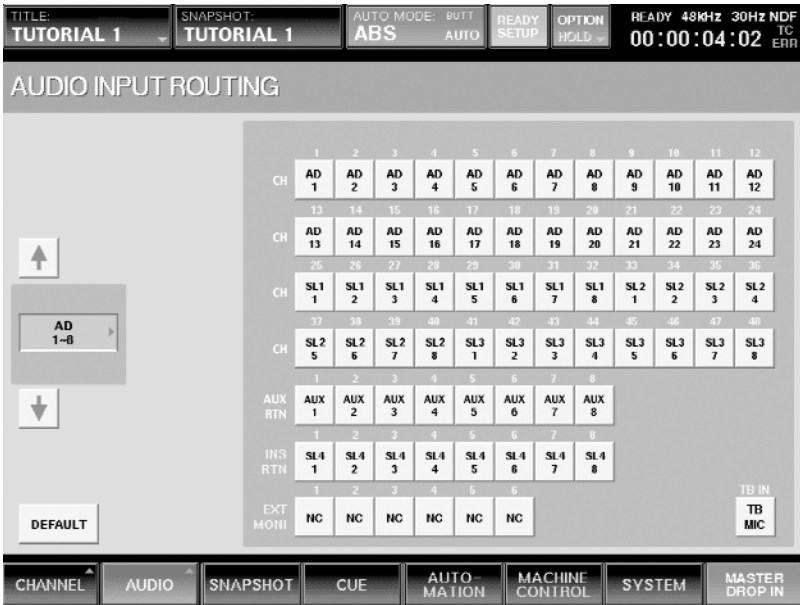

Figure 1
- 7** Go to the Input Routing window and press the Default button. Then go to the Output Routing window and do the same. Following this procedure, the windows should look like this: (See Figures 1 and 2)